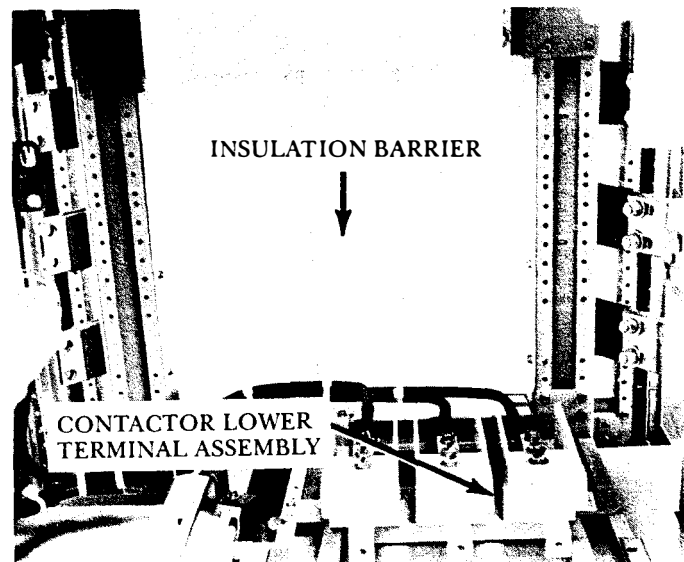

Figure 25. View with lower fuse base assembly removed (stationary contactor design)
Remove the lower power fuse base assembly by removing the eight (8) mounting screws on each side of the lower fuse base assembly. Figure 25 shows the compartment once the lower fuse base assembly has been removed.
Remove the screws that mount the contactor lower terminal assembly as shown in Figure 25. Also remove the four (4) screws that mount the "U" shaped insulation barrier at the rear of the compartment as shown in Figure 25.